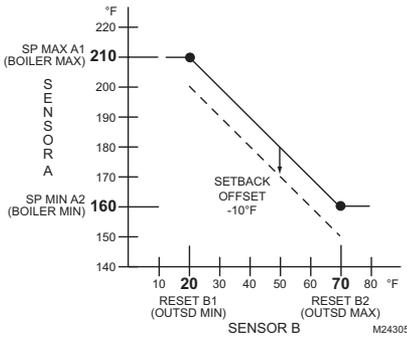
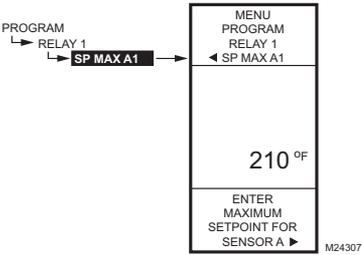
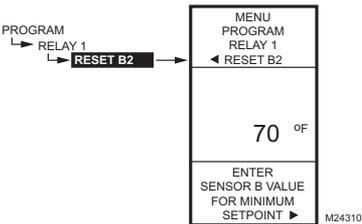

Fig. 25. Reset Curve for First Output with Setback Offset.
Fig. 28. Program - Sensor A Max. Setpoint.
Fig. 31. Program - Sensor B Min. Setpoint.
To program an output for Reset, refer to the values as shown in the examples below and in Fig. 25 on page 13. Choose your own appropriate values for Sensor A maximum and minimum and Sensor B maximum and minimum.
**Reset Example:** (see Fig. 25 on page 13)
**Setback (optional) Example:** (see Fig. 25 on page 13)
The remainder of this section, beginning with “1.2. Entering Program Mode”, describes the individual parameters for configuring outputs with Reset. For your reference, the following Reset programming procedure uses the values in Fig. 25.
The Reset settings (Fig. 28 through Fig. 31 on page 14) are programmed for the first output and these settings apply to all outputs that are configured for Reset. See Fig. 25 for the reset curve values used in the following section.